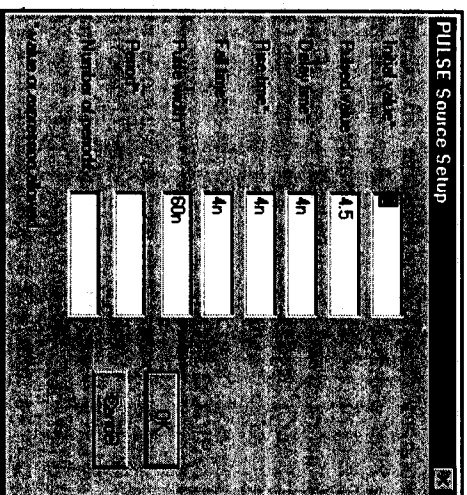

Figure 4 PULSE source setup menu
- The voltage signal source part is a special case. Instead of the normal "Part Attributes" dialog box, the "Independent Source Setup" dialog box is displayed. Change the entry in the "Reference name" box to VIN. In the "TRANSIENT Spec" box select the PULSE radio button. This brings up the "PULSE Source Setup" dialog box. Fill the entries as shown in Fig. 4.